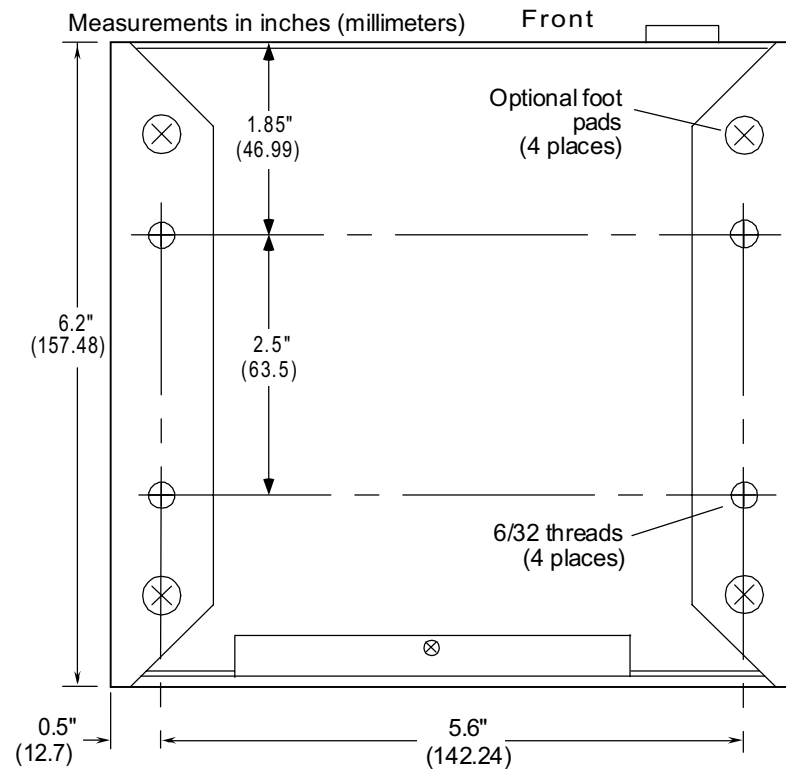

Figure 1-12 Bottom Mounting Diagram (not full size)
- Use the measurements provided in figure 1-12 to locate centers of mounting holes and drill four 5/32 inch or four 4 mm holes.